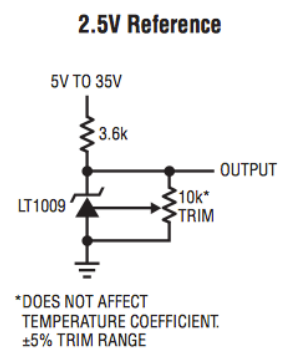

Fig. 7. LT1009 Circuit
**Notice:** LT1009 is used for 2.5V reference voltage. The datasheet recommend a 3.6Kohm resistor as shown in Fig. 7. With a 5V input as used in this system, the diode is not able to hold the Vout at 2.5V because if the resistor is 3.6Kohm, the current flowing in diode is much less than reverse current needed as mentioned in datasheet. Instead, a 0.5 to 1Kohm resistor is recommended.